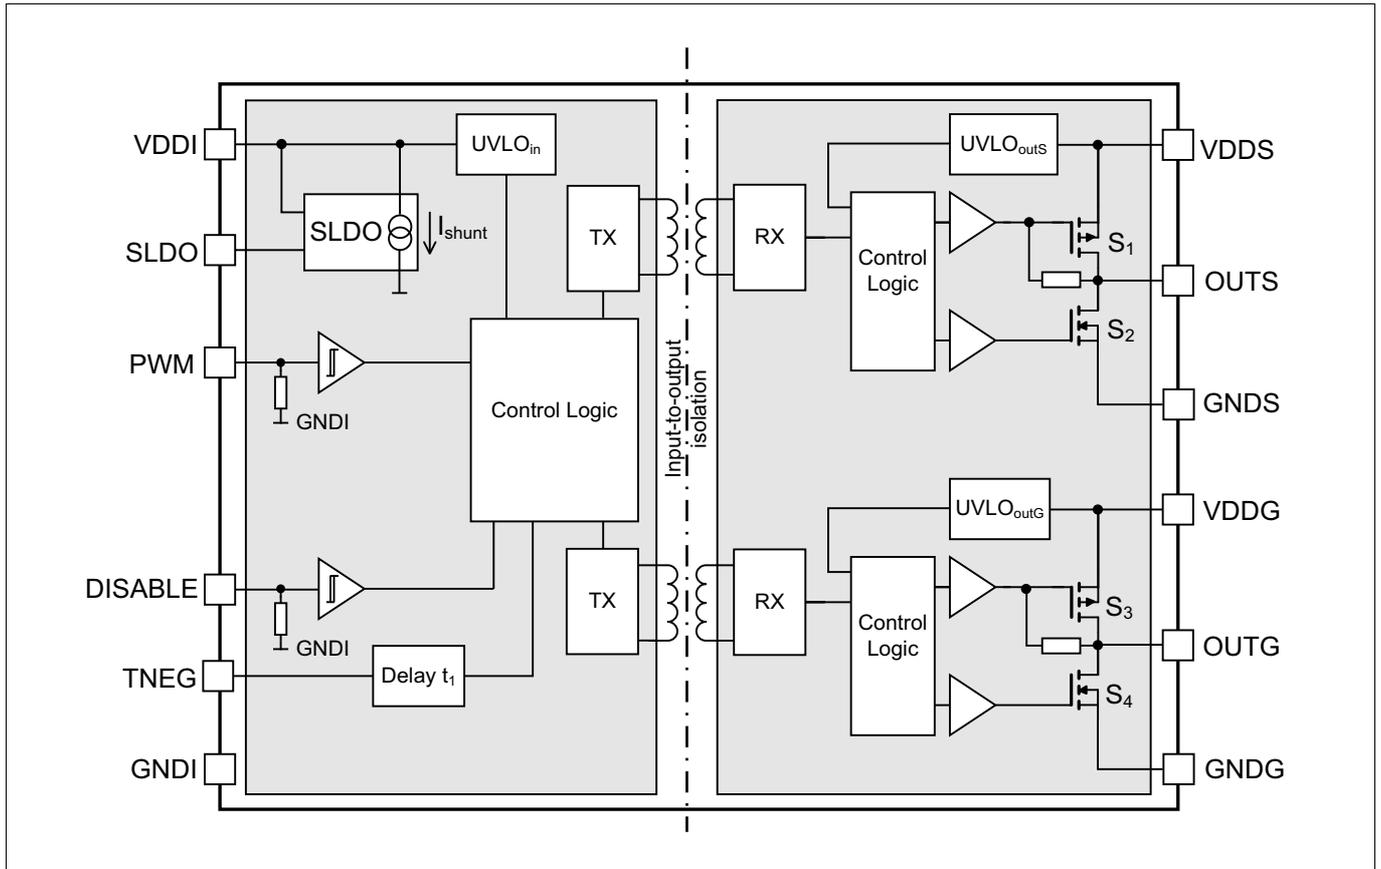

Figure 6 Block diagram
A simplified functional block diagram of the GaN EiceDRIVER™ is given in **Figure 6**. The 4 output transistors are placed on 2 separate dies. Isolation between input and outputs is achieved by means of two coreless transformer structures (CT) situated on the input die.